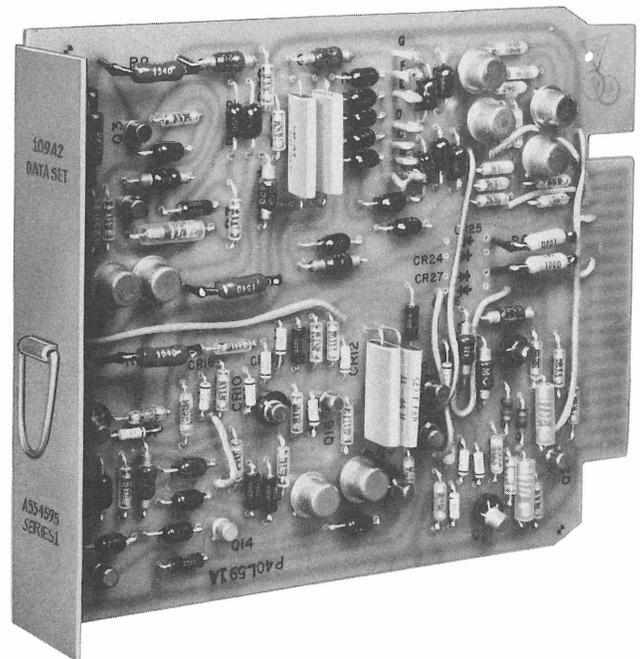

Fig. 8 — Data Set 109A-Type
5.01 There are no preoperative adjustments and tests required for Data Set 109A-type (Fig. 8).